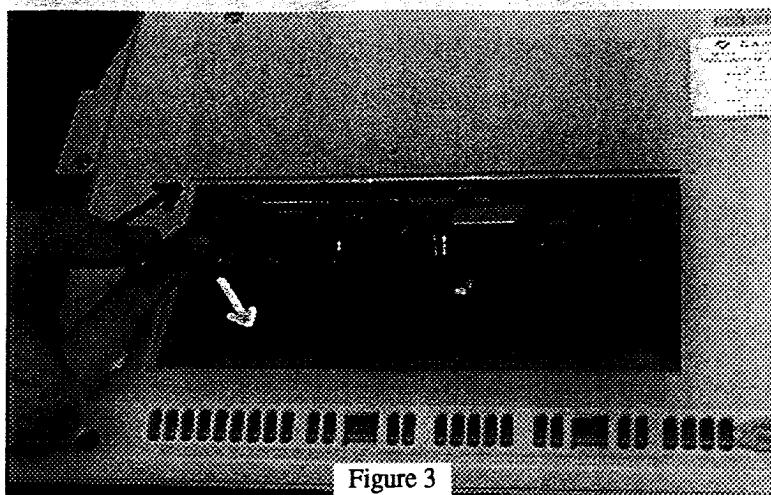

Figure 3
- (4) Holding the DKB Cobra board so that the chips are facing up, slide the board into the opening, tilting the L-shaped back edge down slightly. Make sure that the back edge of the board is resting on top of the small plastic lip along the back edge of the opening (see Figure 3).
- (5) Line up the connector on the board with the edge of the board in your computer. Push the board towards the connector until it is seated firmly.
- (6) Snap the plastic cover back into place
- (7) Turn your computer over, and re-connect the cables
(8) Turn the computer on. If the power light does not come on, or the A1200 does not seem to start normally, turn the power off immediately, and re-check your connections.